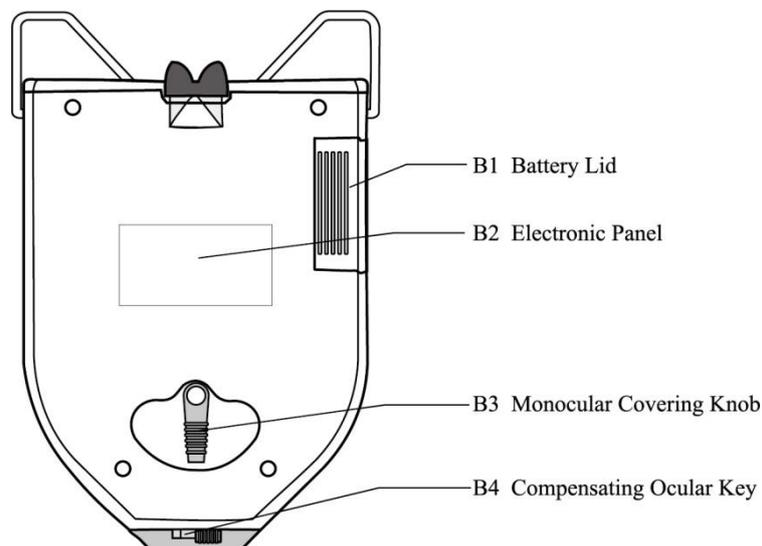

Fig.3
- a. When needing to measure the left or right pupillary distance, please turn the Monocular Covering Knob (as shown in Fig.3 B3) which can cover the other eye completely(as shown in Fig.8a and Fig.8b)